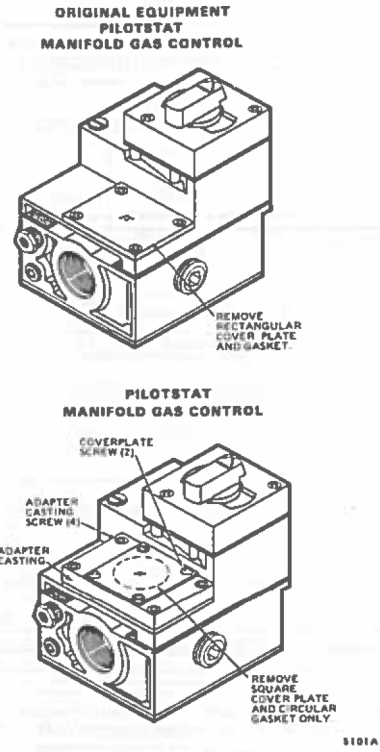

Fig. 3. Optional Pilotstat manifold gas controls.
The addition of a pressure regulator to an original equipment Pilotstat manifold control (top view, Fig. 3), requires installation of the adapter casting assembly, Part No. 394074. Install as follows:
1. Remove and discard rectangular cover plate and gasket (top view, Fig. 3) on manifold control.
The Pilotstat manifold gas controls (bottom view, Fig. 3) have an adapter casting assembly to facilitate addition of a servo pressure regulator.
1. Remove and discard blank regulator cover plate and gasket (lower view, Fig. 3).